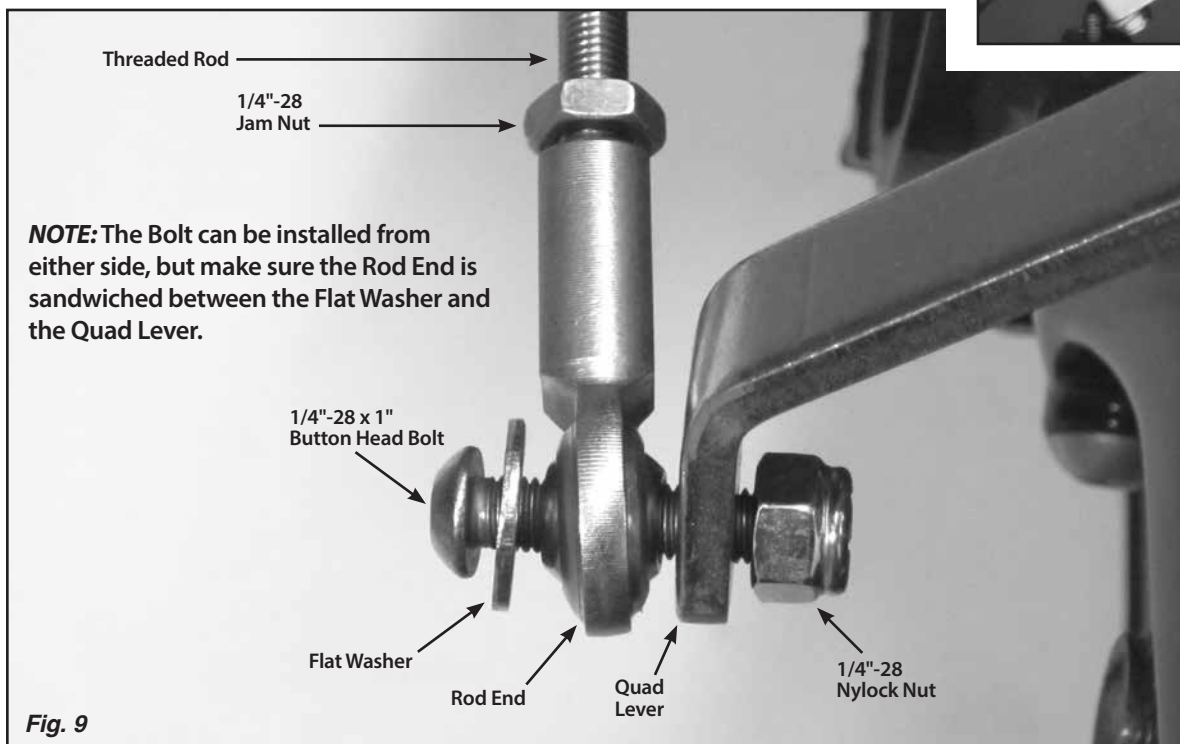

Fig. 9
**Step 14:** Verify that both 1/4"-28 jam nuts are on the threaded rod, and install a rod end onto each end of the threaded rod. Attach the threaded rod assembly to the **outside** of the quad lever and to the **inside** of the trans arm using the 1/4"-28 x 1" button head bolts, flat washers, and nylock nuts as shown in **Fig. 9** and **Fig. 10**. The button head bolts can be installed from either direction, but make sure the rod end is sandwiched between the flat washer and the quad lever or trans arm.